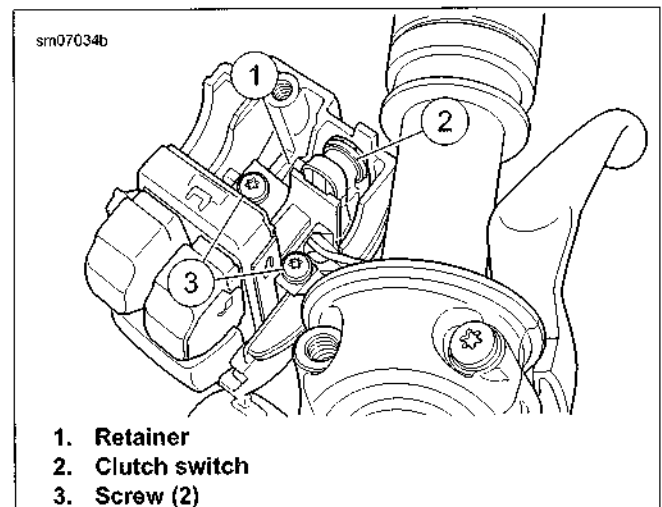

Figure 6-123. LH Clutch Switch and Retainer
1. See Figure 6-123. Remove screws (3) and retainer (1). Remove clutch switch (2) from housing.